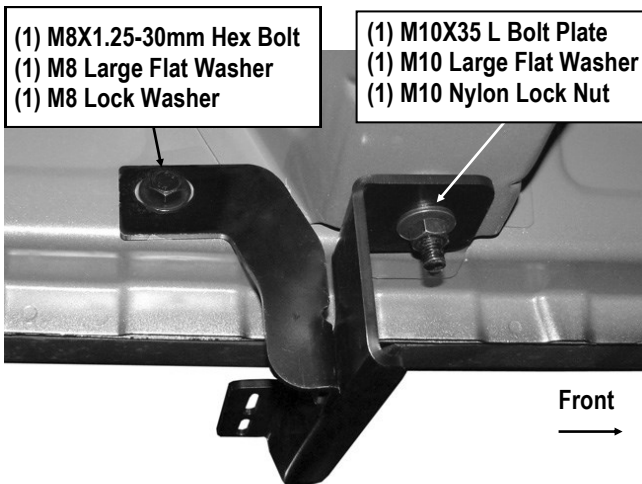

Fig 7B
- Assemble the Rivet Nut Installation Tool as pictured in **Fig 7A**. Firmly hold handle on the tool and push the M8 Rivet Nut into the drilled hole. **NOTE:** Select 8mm hole on threaded tool, (**Fig 7B**). If the M8 Rivet Nut is too tight to install, (push into hole), by hand, lightly tap into position with small hammer. Do not damage the Insert.